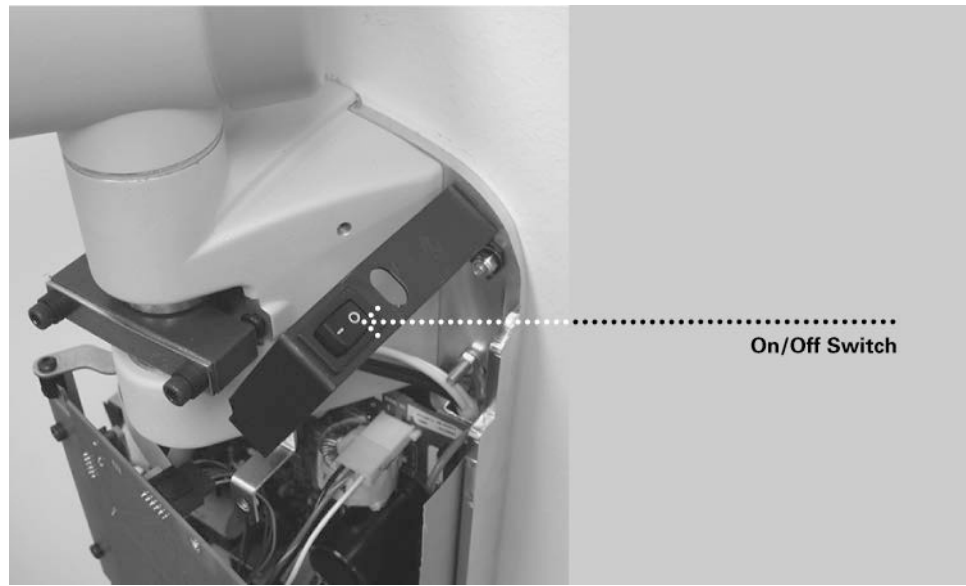

Figure 33
3. Turn on the VetPro® DC Animal Health Dental X-ray System using the power switch, as shown in *Figure 32*. On the Operator Panel, *Figure 33*, you will see the product display screen showing the software version. Then the Operator Panel will display the default technique factors.